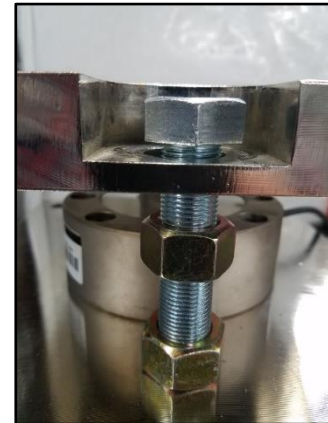

Figure 3
2. Now the bin is in the proper position, tighten the four bolts attached to the weld plate adapter. Finally loosen the two top nuts on the two side bolts going from the top to the bottom plate. **WARNING: THE TWO NUTS MUST BE LOOSENED OR THE WEIGHING SYSTEM WILL NOT WEIGH PROPERLY. RECOMMEND LOWERING THE NUTS A ½ INCH TO REASSURE IT IS NO LONGER SUPPORTING THE TOP PLATE. (SEE FIGURE 3).**